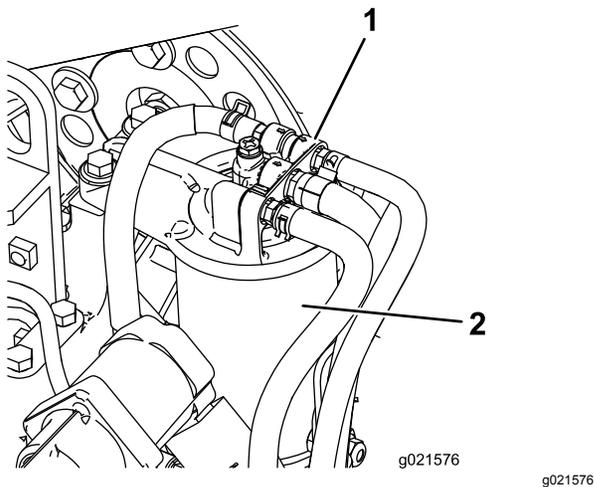

Figure 77
1. Clean the area around the fuel-filter head (Figure 77).
2. Remove the filter and clean the filter-head mounting surface (Figure 77).